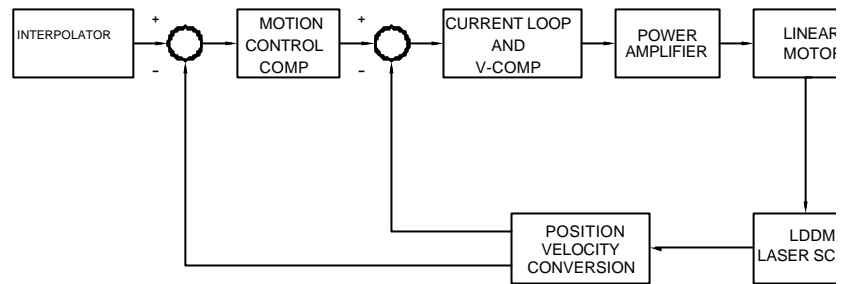

FIG. 3 BLOCK DIAGRAM OF A DIRECT DRIVE AND LASER FEEDBACK SYSTEM
2. Rejection of vibration in two of three planes reduced the effect of structural resonances. A linear motor (Ref. 3) machine must close the velocity feedback loop through the position feedback system since no rotating encoder or tachometer is available. This introduces the machine structure into the velocity loop. In order to achieve high servo stiffness and high acceleration and deceleration rates, high velocity loop gains are required. The laser systems rejection of resonance in two planes makes it possible to have high velocity loop gains without exciting the machine structure. A block diagram of the servo control is shown in Fig. 3.